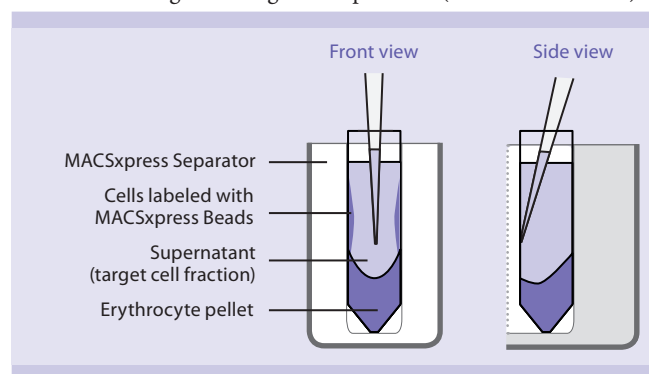

Figure 1: Front and side view of the MACSxpress Separator containing a separated blood sample in a 50 mL tube.
- While the tube is still inside the MACSxpress Separator, carefully collect the supernatant in a new 50 mL tube. For optimal recoveries, collect supernatant by moving the pipette tip top-to-bottom down the front wall of the tube (fig. 1). The supernatant contains the target cell fraction.